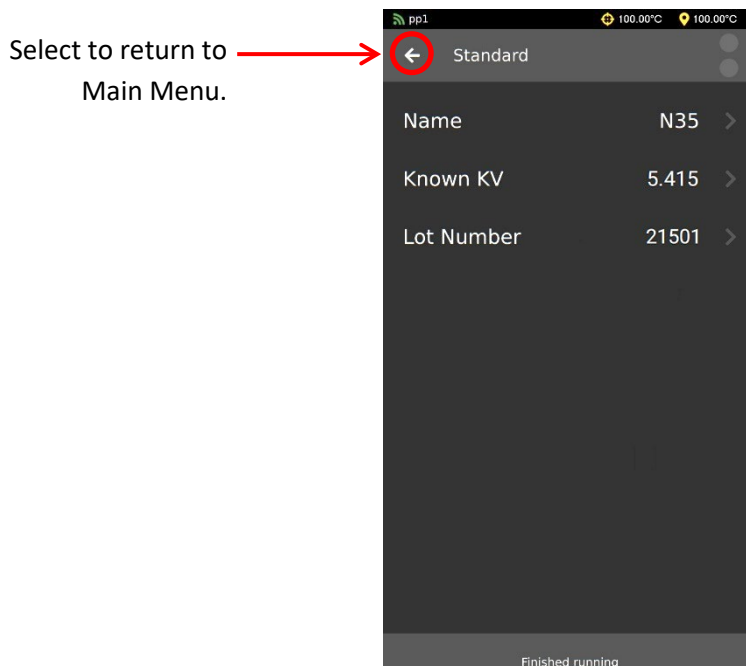

Figure 27: Standard Added
8. Once finished, use a single touch to select the **Back Arrow** and return to the **At a Glance** screen. See Figure 27.